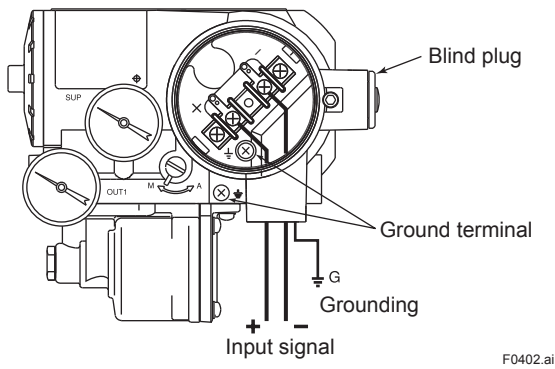

Figure 4.2 Wiring
- As shown in Figure 4.2, remove the terminal box cover and dust proofing plug when performing a wiring connection. Be sure to securely seal the unused wiring port with a blind plug.
Ground terminals are located on the inside and outside of the terminal box. Either of these terminals may be used. See Figure 4.2.